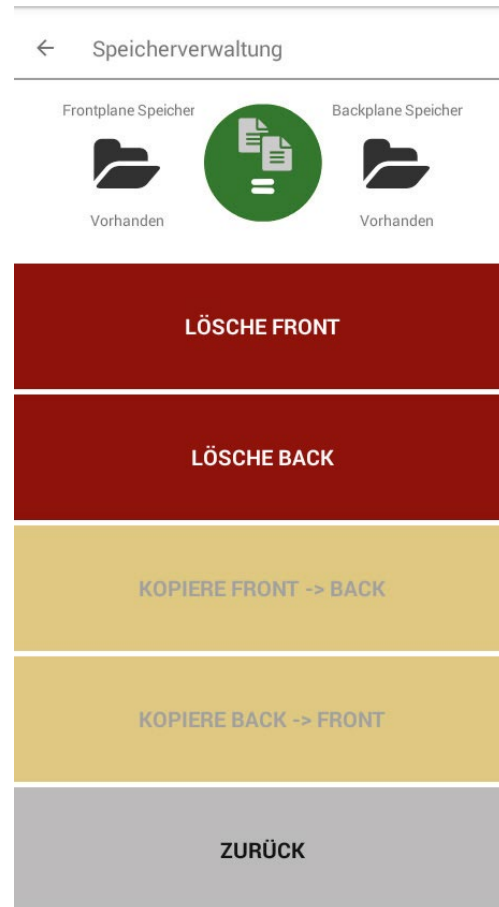

Fig. 7
2. After the configuration has been transferred, the green icon  appears in the status bar (Fig. 7). Use the button "Zurück" (Back) to return to the start screen.